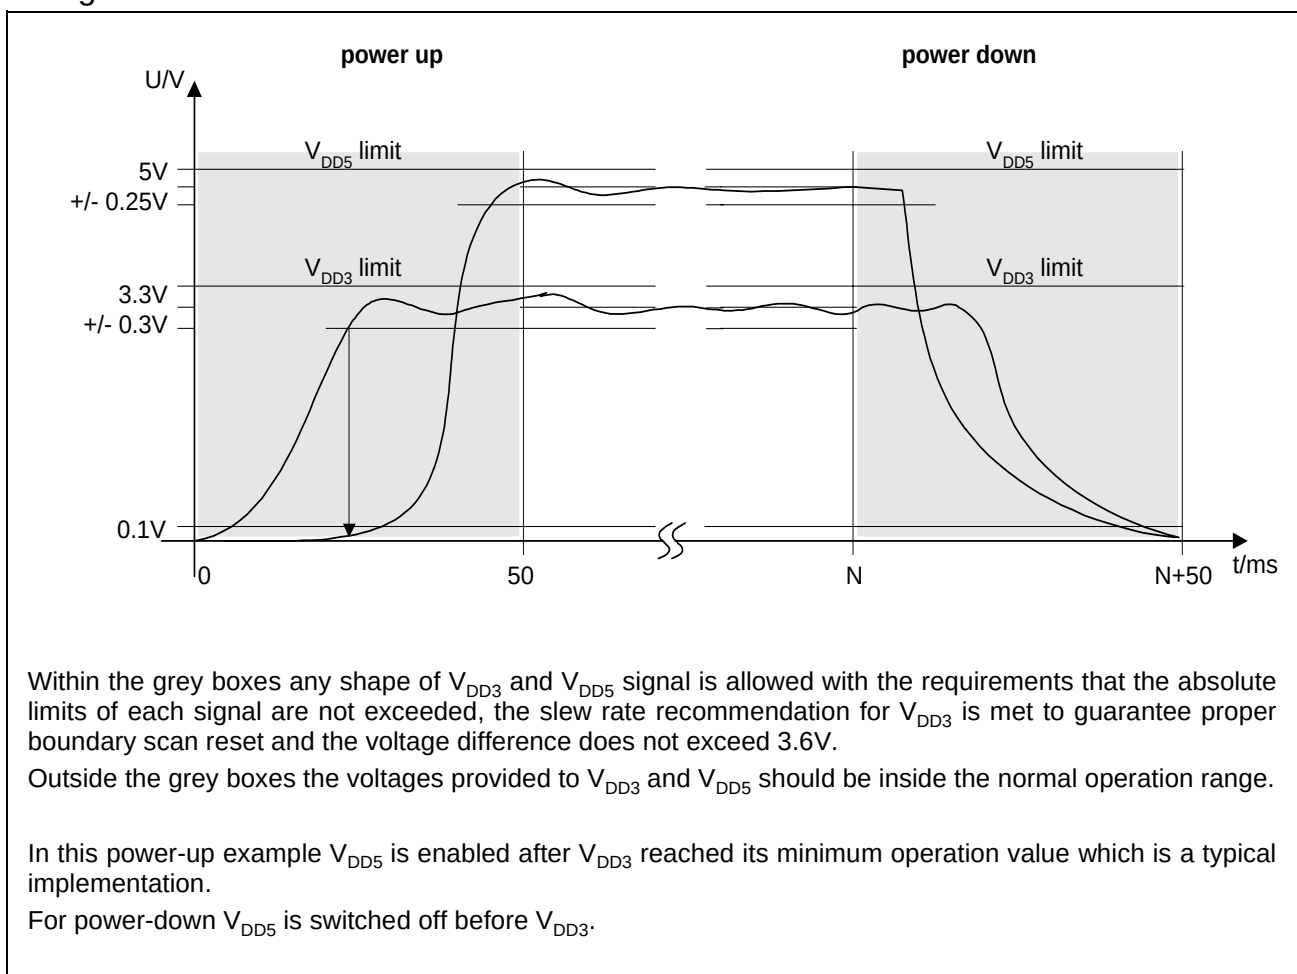

**Figure 83 Power-up and Power-down scenarios**
**Figure 83** shows that both  $V_{DD3}$  and  $V_{DD5}$  can take on any time sequence, not exceeding a voltage difference of 3.6V, for up to 50 milliseconds at power-up and power-down. Within 50 milliseconds of power-up the voltages must be within their respective absolute voltage limits. At power-down, within 50 milliseconds of either voltage going outside its operational range, the voltage difference should not exceed 3.6V and both voltages must be returned below 0.1V: